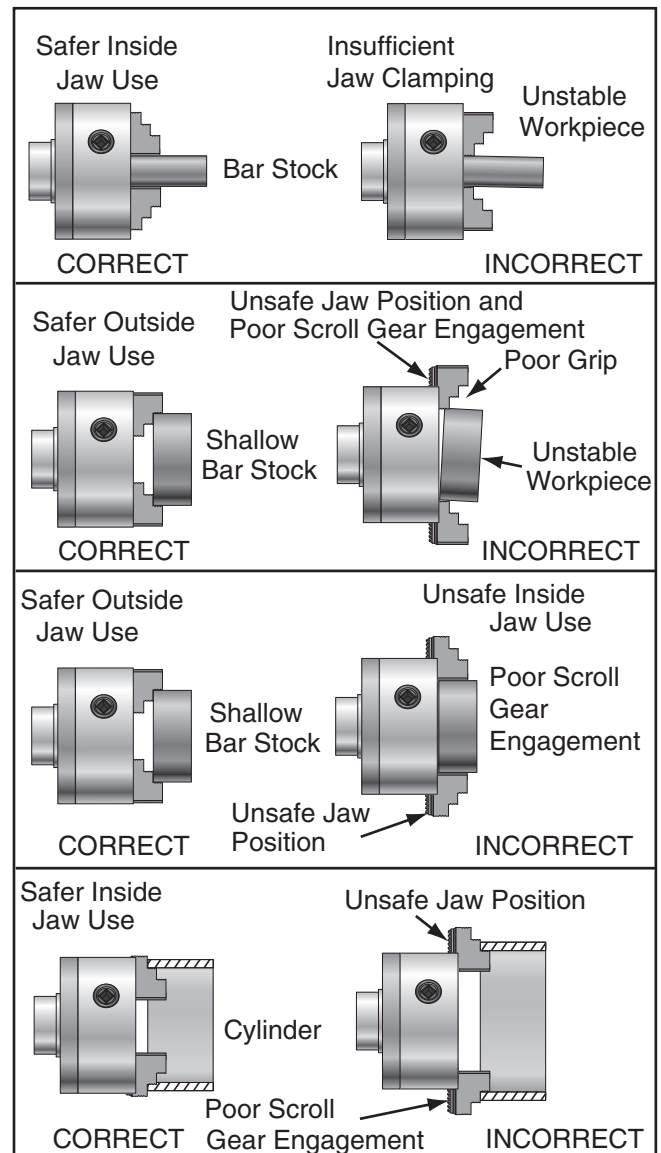

Figure 38. Jaw selection and workpiece holding.
6. Rotate chuck key clockwise until you see the tip of the scroll-gear lead thread begin to enter a jaw guide (see **Figure 38**).